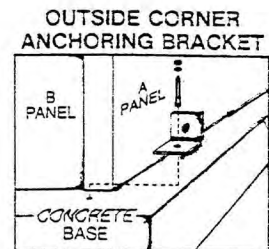

FIG. 1A
3. Set "D" (roof) panel on "A-B" sections and using four (4) hexhead screws fasten thru holes provided.
4. A. Using one (1) hexhead screw attach **Outside Corner Anchoring Brackets** to "A-B" sections. Fasten bracket to concrete using one anchor for each bracket (FIG 1A).